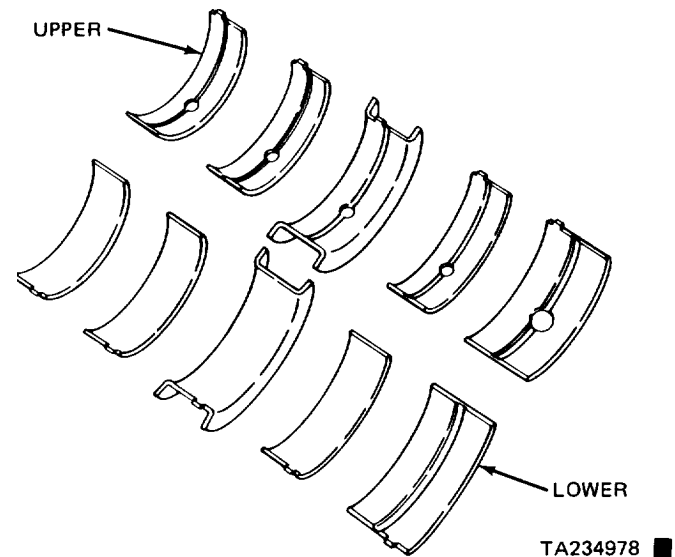

Figure 11-35. Main Bearing Identification.
a. *General.* Refer to figure 11-35 to identify the main bearings. Bearings are available in standard and 0.010 inch undersize. When installing a new upper bearing shell, slightly chamfer the sharp edges from the plain side.